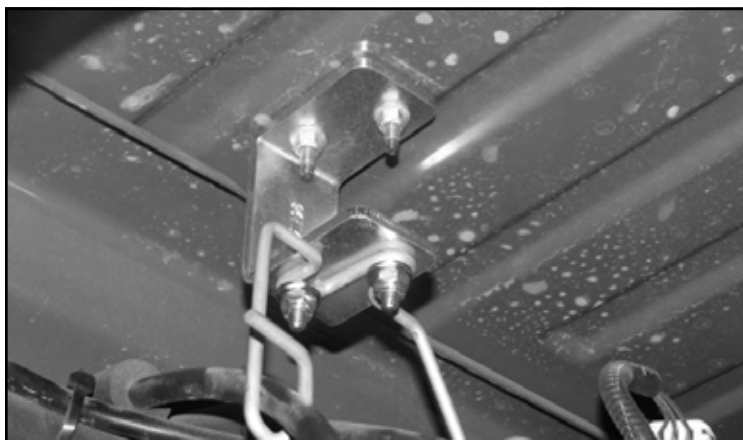

FIGURE 21 - STEP 19
19. Locate FT50298 E-Brake Bracket and supplied ¼" hardware. Position the bracket to the factory mounting position and attach with the factory hardware. Attach the factory bracket to the new Fabtech bracket with the ¼" hardware. Torque to 10 lbs. **SEE FIGURE 21**